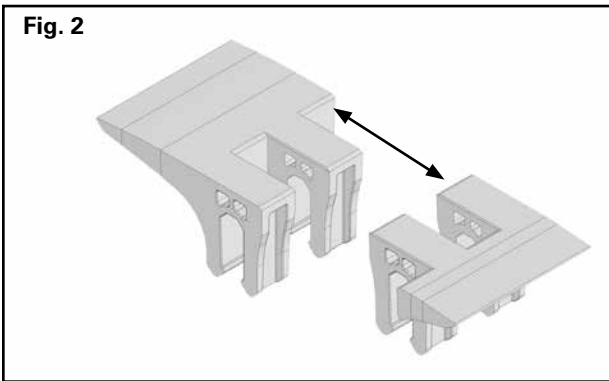
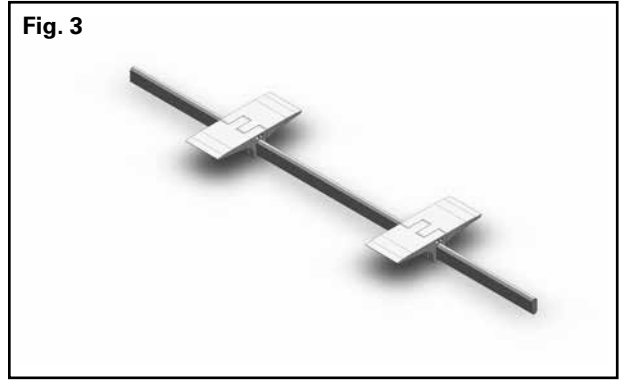

Fig. 2
Fig. 3
3. Slide one segment pair (**Fig. 2**) onto the bar from each end and position each approximately 1/4 of the total bar length from the end (**Fig. 3**).